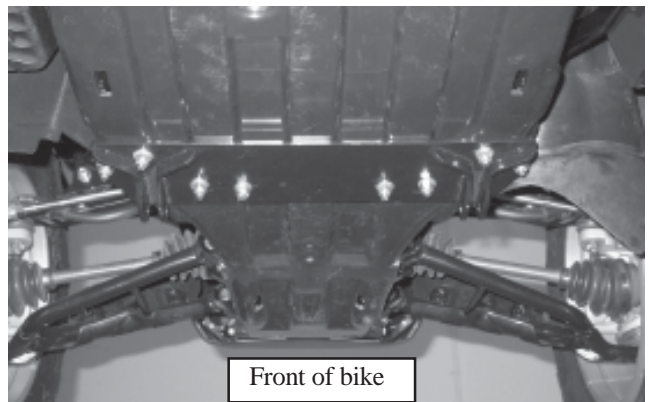

Figure 6
6. Reinstall the skid plate with the six fasteners removed in step 2. Install the plow mount with the provided fasteners by placing the U-Bolts over the frame with the threaded ends protruding through the plow mount. Attach the $\frac{5}{16}$ " washers and nuts as shown in Figure 6. It is important that all fasteners are loosely installed until final assembly. It may be necessary to slot the hole locations on the skid plate for the U-Bolts to line up with the skid plate. The picture shown is from the rear of the bike looking forward.